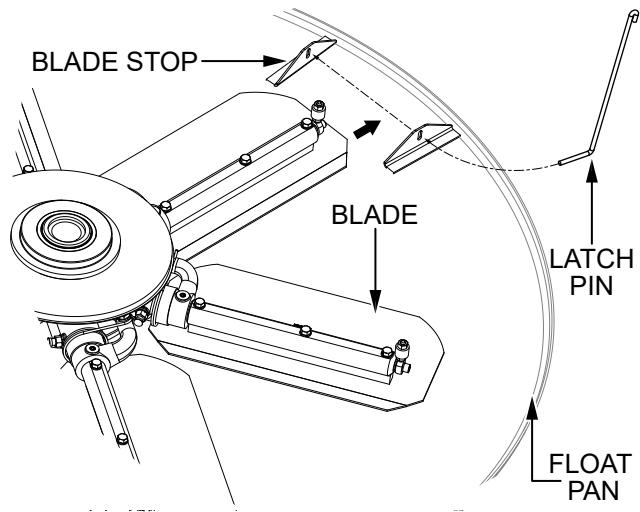

Figure 56. Float Pan Installation (Latch Pins)
1. Lift the trowel just enough to slide the float pan under the blades. Lower the trowel onto the pan with the blades between the blade stops (Figure 56).
2. Rotate the blades so that the blades fit between the blade stops (Figure 56). Be sure to rotate the blades in the same direction as during operation, or use the engine to rotate the blades into position.
3. Route the latch pins through the holes in the blade stop holes as shown in Figure 56.